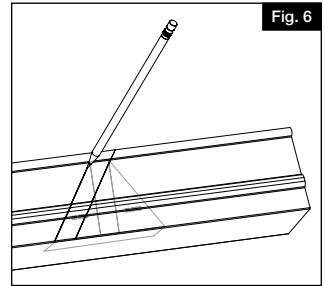
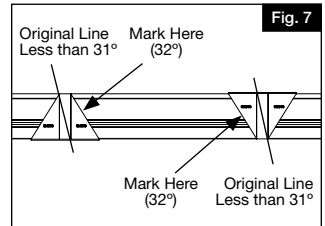

Fig. 6
Fig. 7
- Prior to installing round aluminum balusters, insert the provided foam strips into the top of the top rail and bottom of the bottom rails (sides opposite of routed holes). Cut to rail length. Then, remove 1" of the release paper from each end to expose adhesive (Fig. 6). Press fit the foam strips to rails (Fig. 7). DO NOT remove the release paper from entire strip – Only remove 1" from each end. For top rails 8' and longer in length, the strip will adhere to the aluminum stiffener instead of the top rail itself.
- a. From the original line created by the post, mark another line  $\frac{1}{16}$ " on the inside of the bottom rail (closer to the baluster routes) (Fig. 6). This is accomplished by using the angle template (Fig. 7). This additional removal of material will allow for bracket clearance when the rail is installed. For this 26°-31° angle, the new line will NOT be parallel to the previously drawn line.